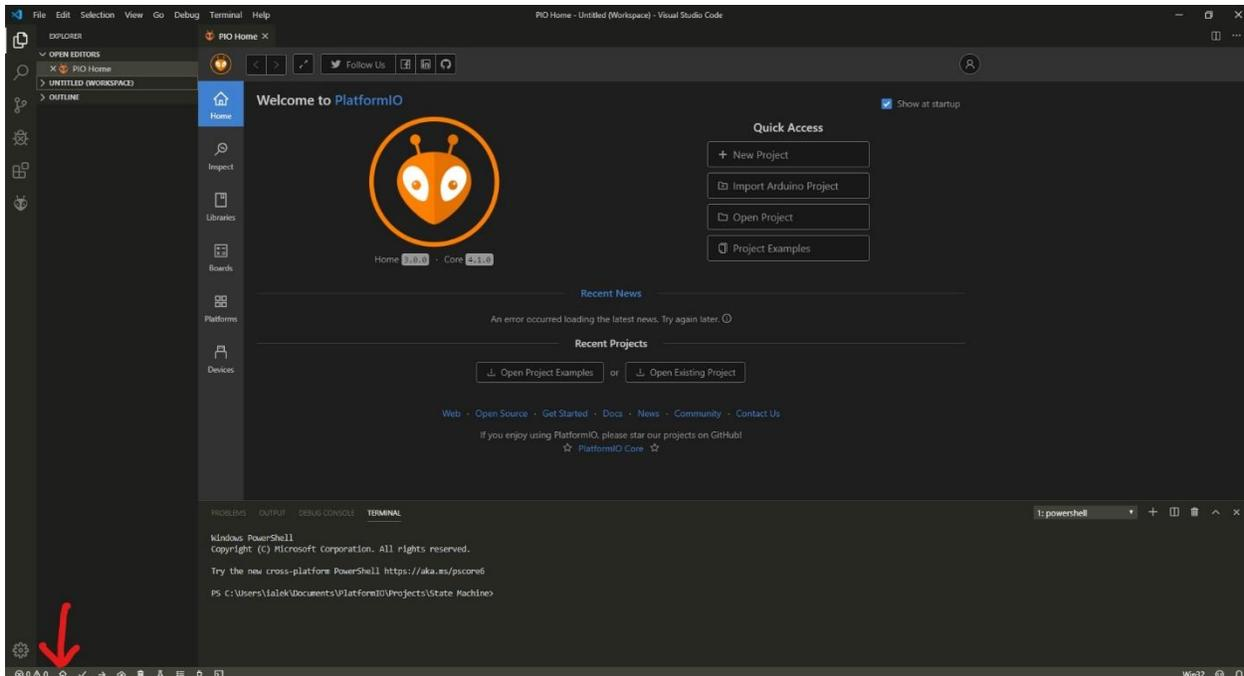

Figure 2
Step 4: Project creation. Navigate to PlatformIO homepage. (Figure 2). New Project > Enter project name > Select HiFive 1 rev B boards > Finish